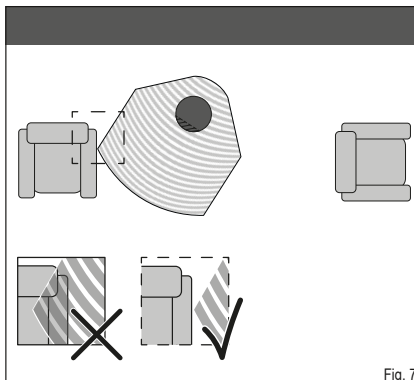
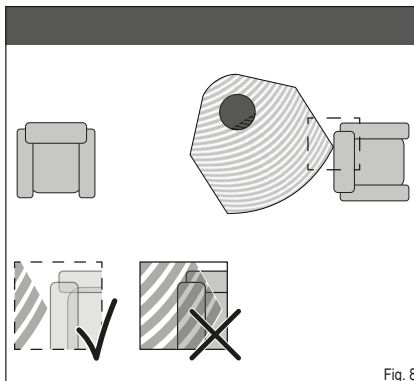

Fig. 7
Fig. 8
- ▶ Flammable materials, e.g. furniture, must not be located within the radiation range of the stove at the set radiation area (Fig. 7 and Fig. 8).